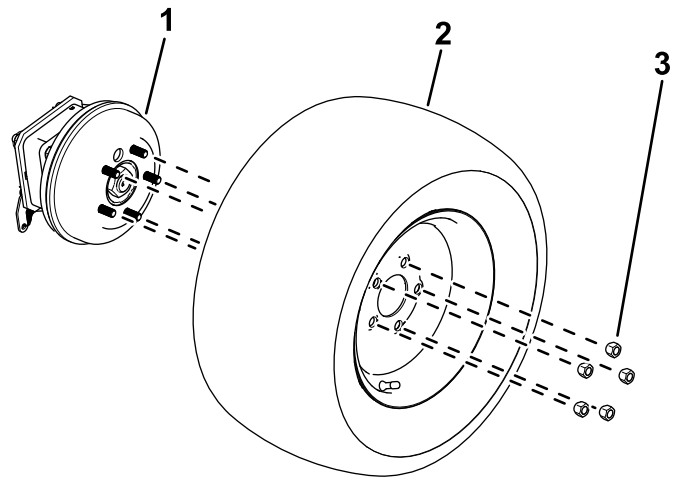

Figure 11
2. Loosen and remove the wheel lug nuts (Figure 11).
3. Removed the wheels from the wheel hubs (Figure 11).
- 1. Use the previously-removed lug nuts to secure the tires to the wheel hubs (Figure 11).